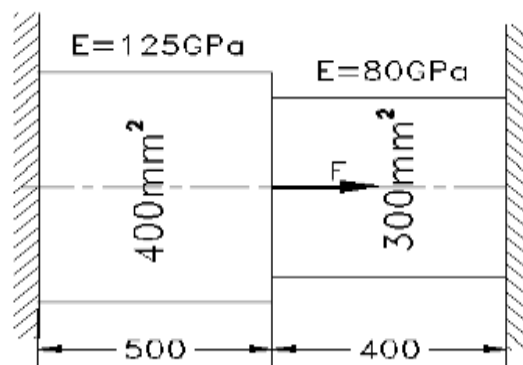

Figure 3
- (c) For a compound section shown in figure 3 below, determine the nodal displacements and stresses in each element when a force $F = 1600 \text{ N}$ is applied at the change of cross section. Use Penalty approach to solve the problem. 07